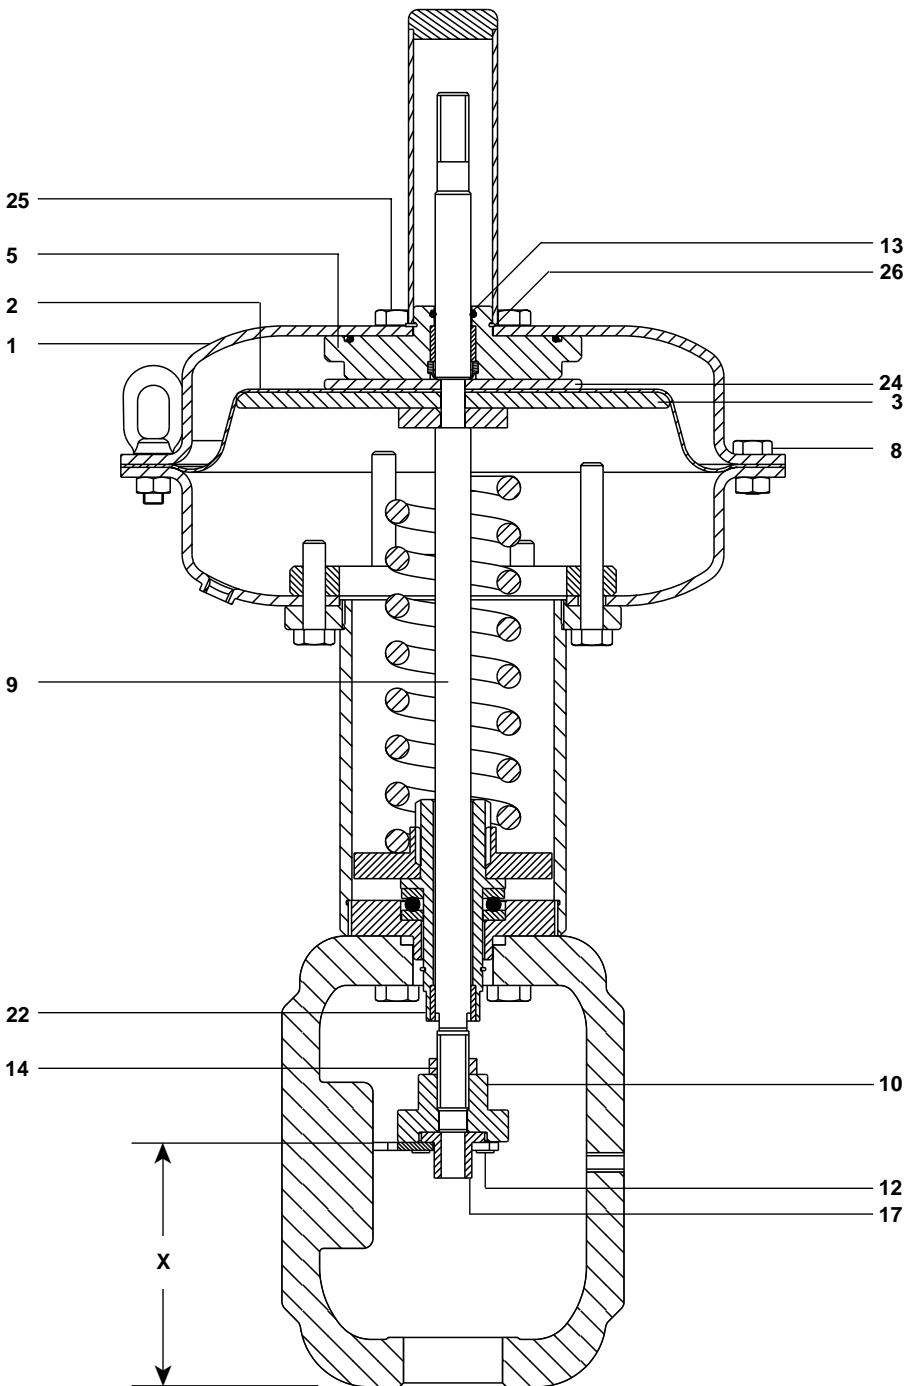

Fig. 7 PN2000 series
5.4 PN2000 Series (Refer to Figure 7):
Table 2 Dimension 'X' approximate in mm (inches) (See Figure 7)